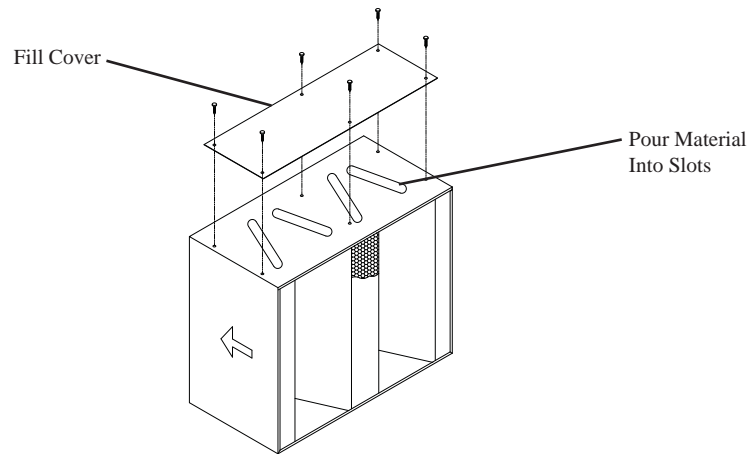

Fig. 5
2. Set module on a level surface. Remove fill cover by removing six #10-32 Phillip head screws, that secure cover. Set cover aside (Fig. 5).